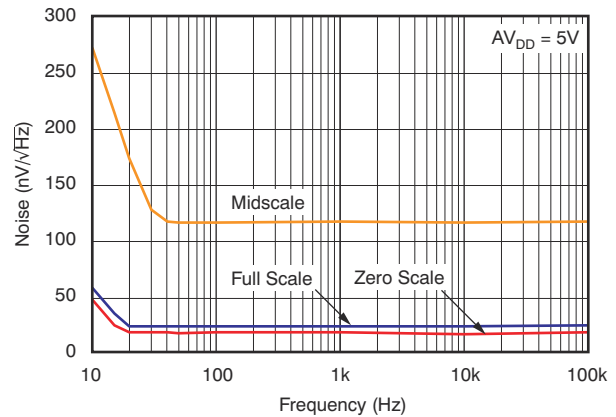

Figure 7-23. DAC Output Noise Density vs Frequency
- (1) Linearity calculated using a reduced code range of 3 to 252 for 8-bit, 12 to 1012 for 10bit, and 30 to 4050 for 12-bit, output unloaded.
- (2) Straight line passing through codes 3 and 252 for 8-bit, 12 and 1012 for 10-bit, and 30 and 4050 for 12-bit, output unloaded.
- (3) Specified by design and characterization, not production tested.
- (4) For more details, see Figure 7-23.